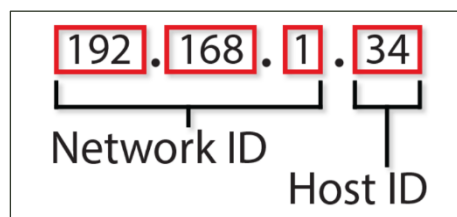

Figure 2: IP Address Format
Every device installed in the SCADA system requires a unique identifier. This shall be done using the Internet Protocol Address version four (IPv4). IP addresses always consists of four numbers (or four octets). It is divided into two parts namely (1) Network ID and (2) Host ID. Figure 2 below represents the IP Address format.